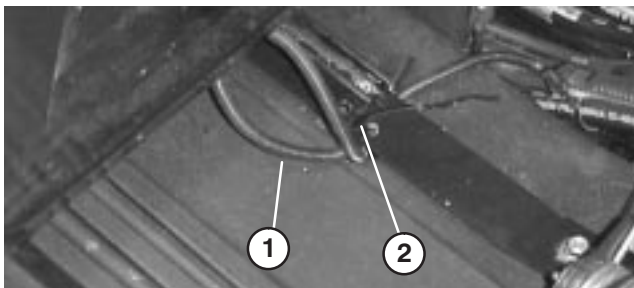

Figure 5
3. Install seat belt to holes on each side of seat with (2) bolts and lockwashers (standard seat) or (2) bolts and locknuts (deluxe seat). All mounting fasteners supplied with seat kit loose parts.
6. On deluxe seat only, route unused seat switch connector back under seat strap and secure both wires to rear most hole in seat strap (Fig. 5) with a cable tie (cable tie supplied with seat kit).